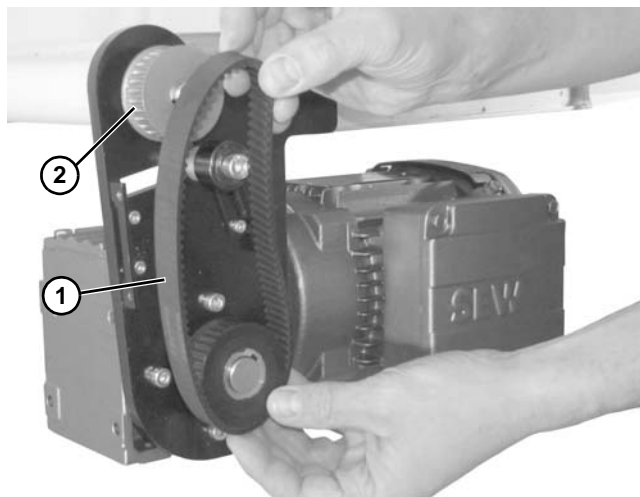

Figure 22
3. Remove timing belt (Figure 22, item 1).
If timing belt does not slide over pulley flange, loosen driven pulley set screws (Figure 22, item 2) and remove pulley with belt. For re-installation, see steps 6,7 and 8 on page 8.
If drive pulley (Figure 22, item 3) is replaced, wrap timing belt around drive pulley and complete step 3.